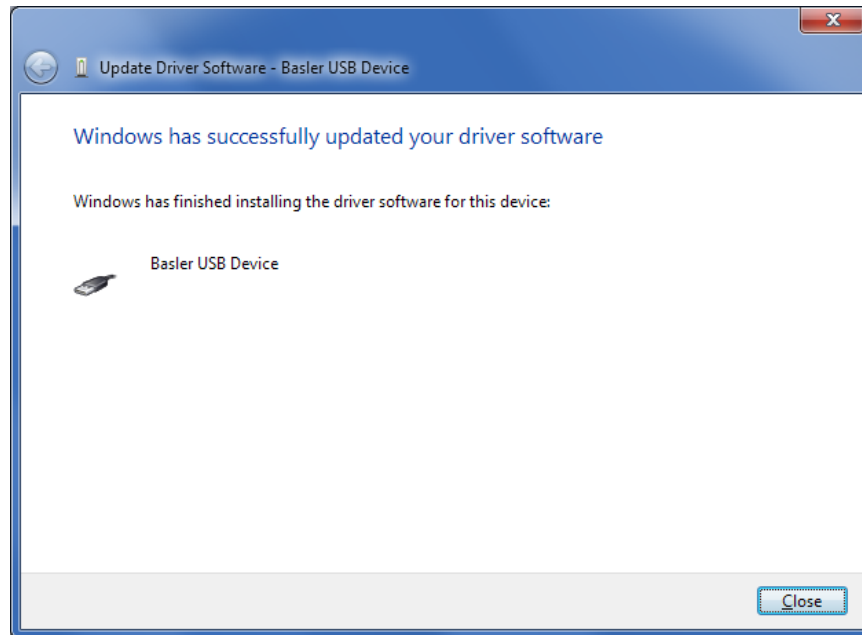

Figure 73-7. Driver Software Update Successful
Step 7. The window in Figure 73-7 appears if driver installation was successful.